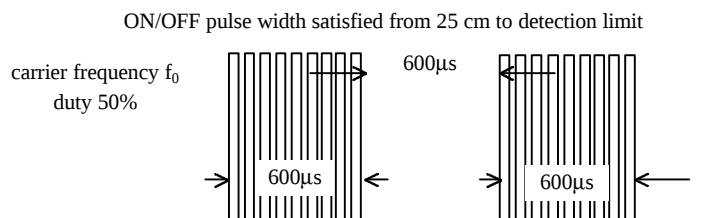

Fig 1. Burst Wave
(3)Standard transmitter ... Burst wave indicated in Fig 1. of standard transmitter